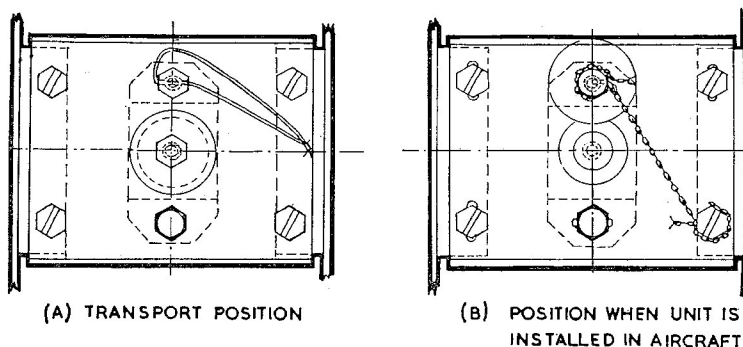

Fig. 4. Scrap view of transport stop peg
6. Transport stop pegs are fitted at each end of the unit, to secure the regulator during transport from the manufacturer. The four stop pegs are removed prior to installation and re-fitted to the adjacent retaining screws when not required. Further information will be found in the installation details (fig. 4).
12. The stop pegs must then be screwed firmly down on the adjacent studs provided and tie-wired in position as shown in the installation detail (fig. 4).